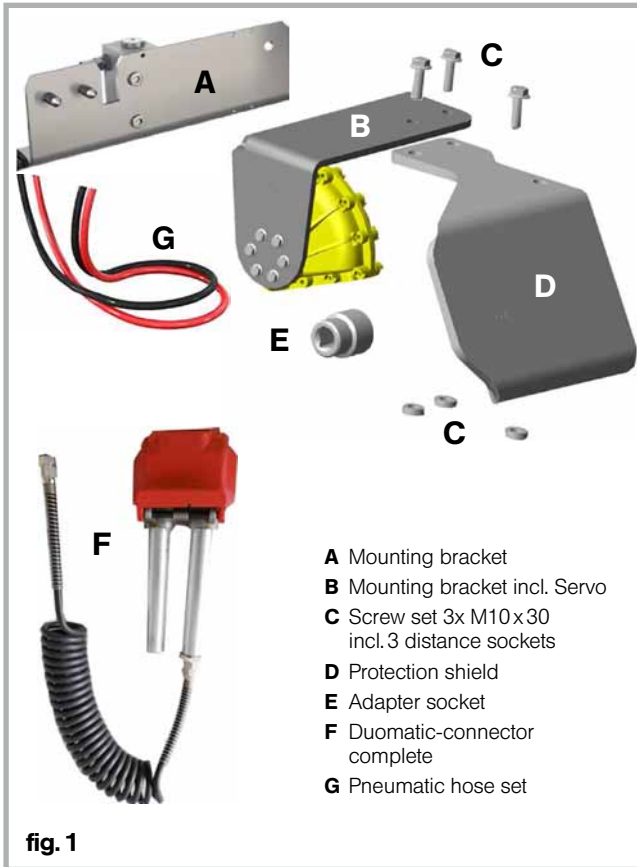

fig. 1
- Check the supplied components for completeness (see fig.1)